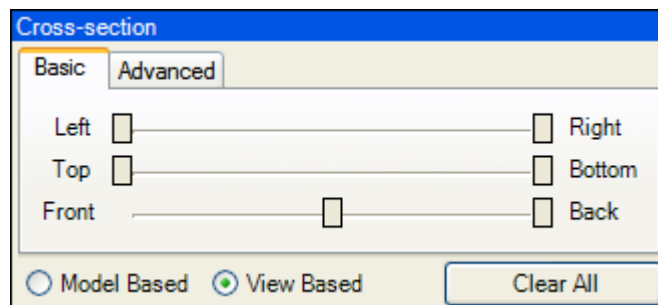

Figure 2.7 The Cross-section palette
- 1 On the toolbar, click the **Cross-section** button . The **Cross-section** palette appears (see Figure 2.7).